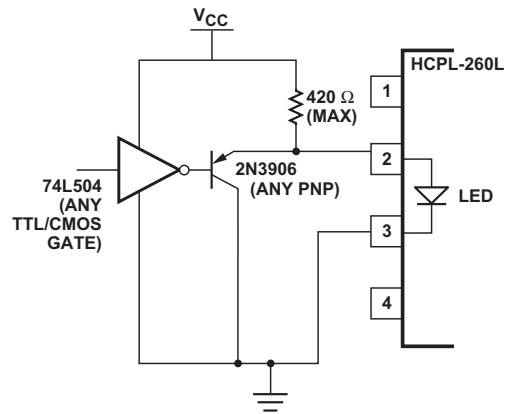

Figure 15. TTL interface circuit.
1. Use of drive circuits where current is shunted from the LED in the LED “off” state (as shown in Figures 15 and 16). This is beneficial for good  $CMR_H$ .
Figure 15 shows a circuit which can be used with any totem-pole-output TTL/LSTTL/HCMOS logic gate. The buffer PNP transistor allows the circuit to be used with logic devices which have low current-sinking capability. It also helps maintain the driving-gate power-supply current at a constant level to minimize ground shifting for other devices connected to the input-supply ground.